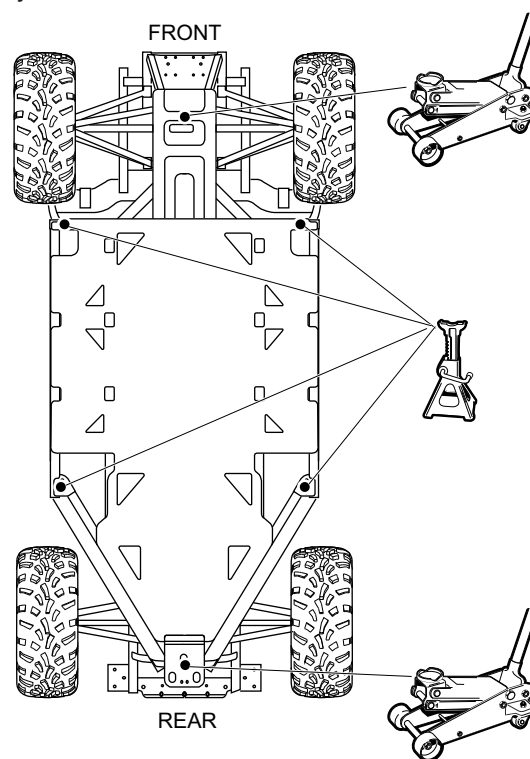

Fig. 1 Lifting the Vehicle
2. Put a jack under the center of the vehicle frame at the differential mounting plate (Ref. Fig. 1).
2. Put a jack under the center of the vehicle frame at the hitch mounting plate (Ref. Fig. 1).